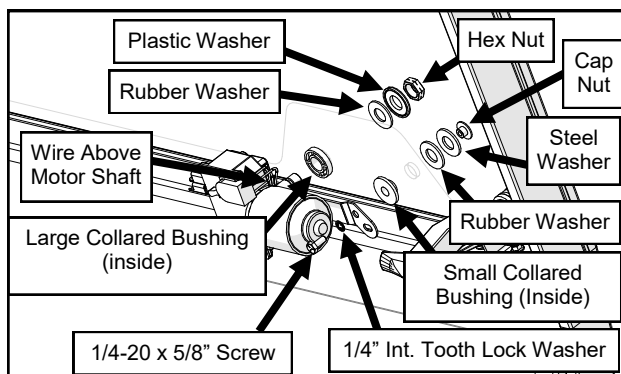

Fig. 14.1 (Windshield Wiper Motor)
- 14.1** Mount the wiper motor to the windshield. See Figure 14.1. Make sure the wires are above the wiper motor shaft to prevent pinching the wires when the windshield is opened and closed, then connect to the wire harness.